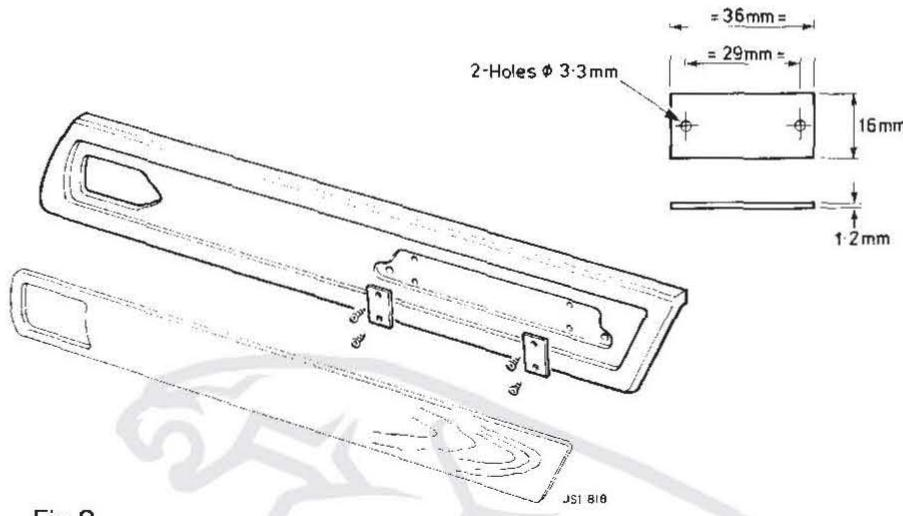

Fig 8
- 3 Replace the retaining clips Part No BCC 5150 with modified clips Part No BDC 5458 (Fig 8).